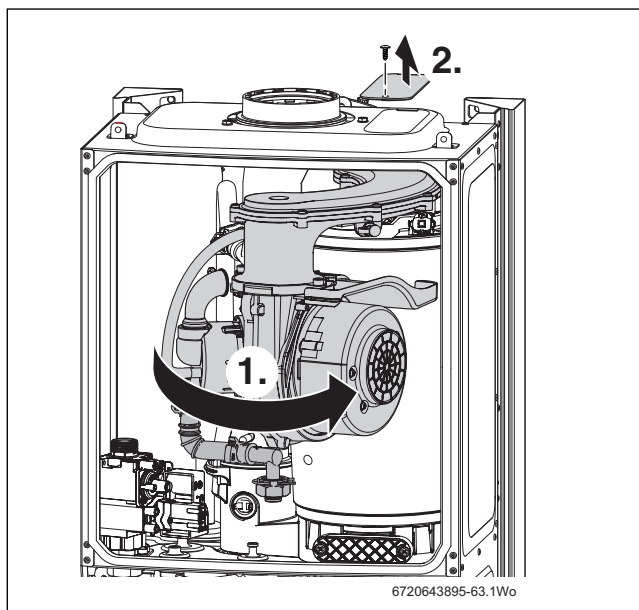

Fig. 75 Rotate air/gas manifold
1. Refer to figure 75 and rotate fan and air/gas manifold assembly around the top of the heat exchanger until it stops at the lug.